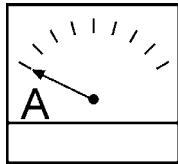

Figure 40. Ammeter (No Load)
6. The ammeter (Figure 40) will indicate **zero amps** with no load applied. When a load is applied, the ammeter will indicate the amount of current that the load is drawing from the generator.